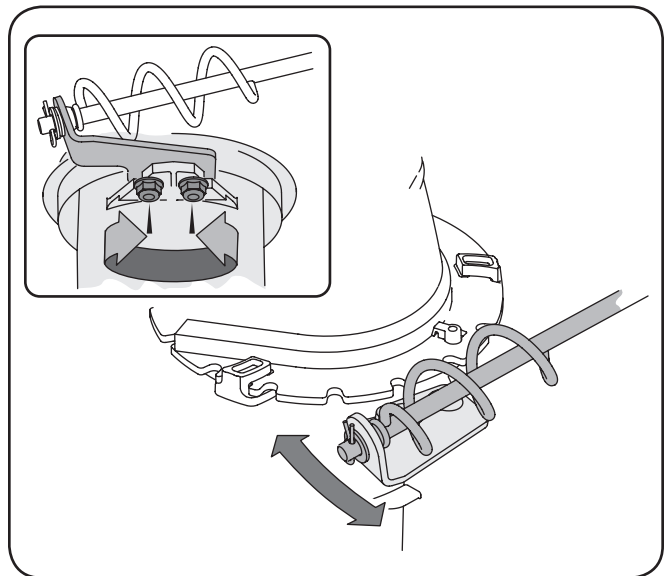

Figure 6-5
1. Loosen the two nuts which secure the chute bracket and reposition it slightly. See Fig. 6-5.